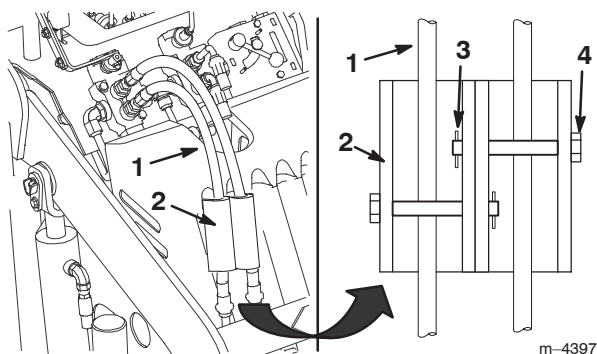

Figure 11
- Install the cylinder locks over the hydraulic hoses and secure them with the clevis pins and cotter pins (Fig. 11).